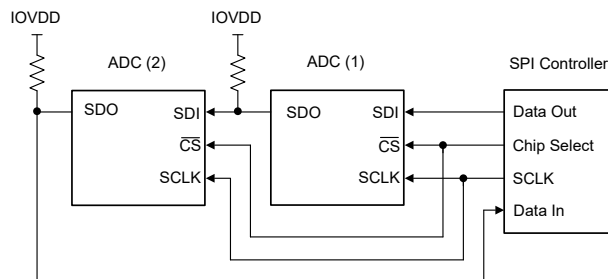
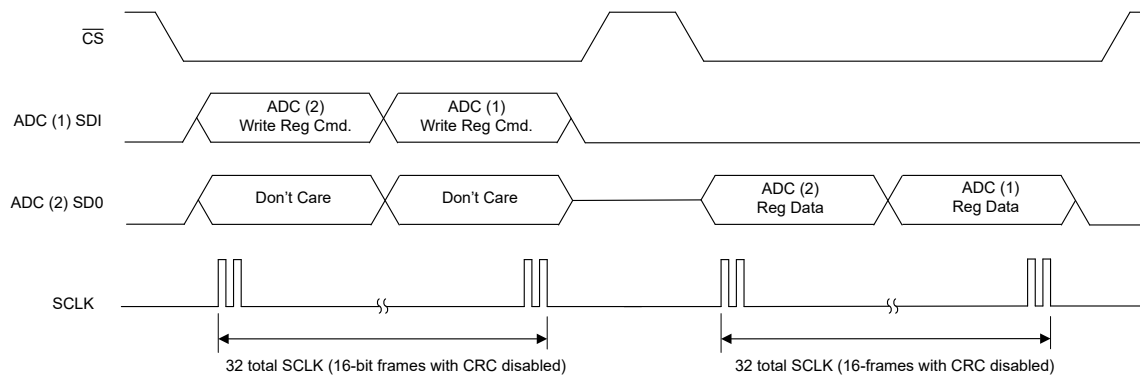

Figure 7-50. SPI Daisy-Chain
Figure 7-51. SPI Daisy-Chain Register Write Data Format
Figure 7-50 shows a two-device, daisy-chain connection and Figure 7-51 shows the data format for a register write commands for each device. The *Data Out* line of the controller connects to ADC (1) SDI and ADC (2) SDO connects to the *Data In* line of the controller. ADC (1) input data is shifted out on SDO to drive the ADC (2) SDI. The shift operation continues until the last device in the chain is reached. The SPI frame ends when $\overline{CS}$ is taken high, at which time the data shifted in to each device are interpreted. The second frame shifts out the register data from both devices through the ADC (2) SDO pin.